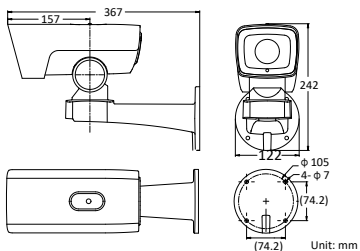

Figure 2-54 Wall-mounted PTZ Bullet Camera
3. Fix the camera on the wall by knocking the expansion screws into the wall through the bracket, as shown in Figure 2-54.